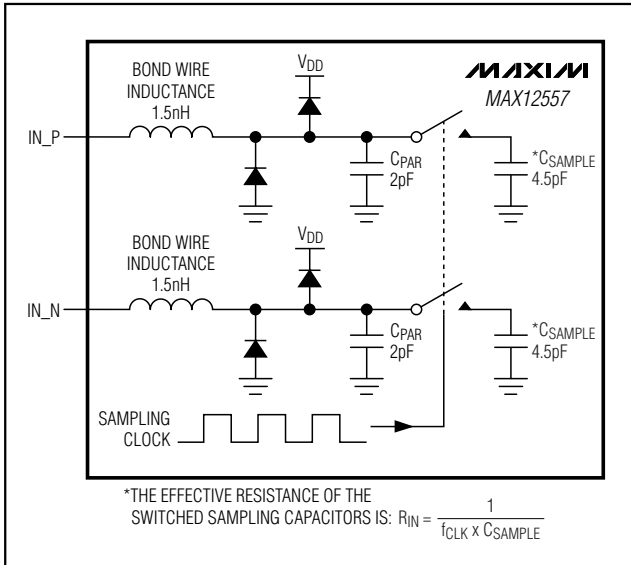
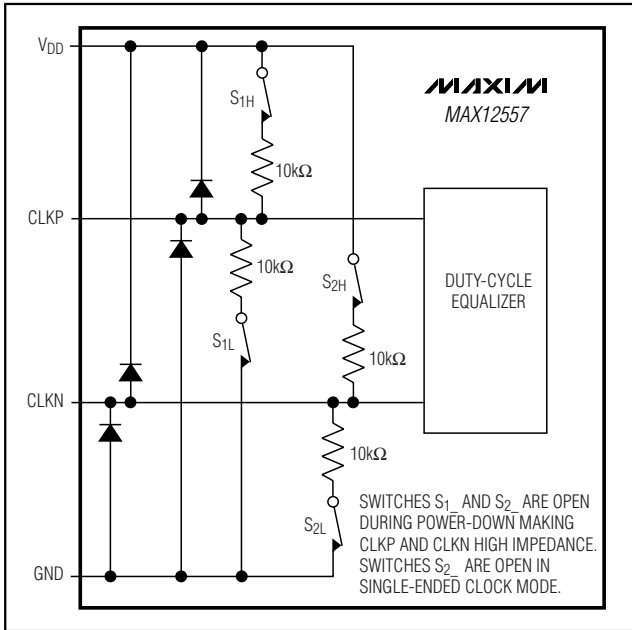

Figure 3. Internal T/H Circuit
Figure 4. Simplified Clock Input Circuit
Figure 3 displays a simplified functional diagram of the input T/H circuit. This input T/H circuit allows for high analog input frequencies of 175MHz and beyond and supports a  $V_{DD} / 2$  common-mode input voltage.
The MAX12557 sampling clock controls the switched-capacitor input T/H architecture (Figure 3) allowing the analog input signals to be stored as charge on the sampling capacitors. These switches are closed (track mode) when the sampling clock is high and open (hold mode) when the sampling clock is low (Figure 4). The analog input signal source must be able to provide the dynamic currents necessary to charge and discharge the sampling capacitors. To avoid signal degradation, these capacitors must be charged to one-half LSB accuracy within one-half of a clock cycle. The analog input of the MAX12557 supports differential or single-ended input drive. For optimum performance with differential inputs, balance the input impedance of IN\_P and IN\_N and set the common-mode voltage to mid-supply ( $V_{DD} / 2$ ). The MAX12557 provides the optimum common-mode voltage of  $V_{DD} / 2$  through the COM output when operating in internal reference mode and buffered external reference mode. This COM output voltage can be used to bias the input network as shown in Figures 9, 10, and 11.
The MAX12557 accepts both differential and single-ended clock inputs with a wide 25% to 75% input clock duty cycle. For single-ended clock input operation, connect DIFFCLK/SECLK and CLKN to GND. Apply an external single-ended clock signal to CLKP. To reduce clock jitter, the external single-ended clock must have sharp falling edges. For differential clock input operation, connect DIFFCLK/SECLK to OVDD. Apply an external differential clock signal to CLKP and CLKN. Consider the clock input as an analog input and route it away from any other analog inputs and digital signal lines. CLKP and CLKN enter high impedance when the MAX12557 is powered down (Figure 4).
- 1) INAP/B, INAN/B analog inputs are disconnected from the internal input amplifier (Figure 3).
- 6) CLKP, CLKN clock inputs enter a high-impedance state (Figure 4).